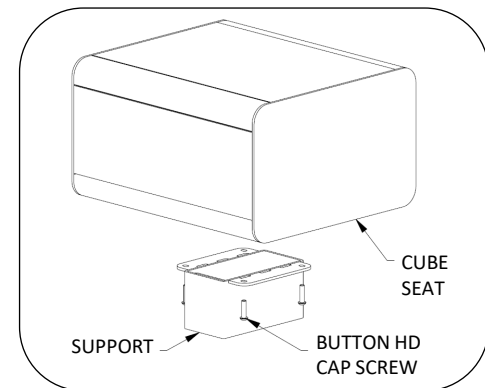

Fig. 3 – attach seat to support
4. Set cube seat on support and attach using (4) socket button head cap screws, see Fig. 3.